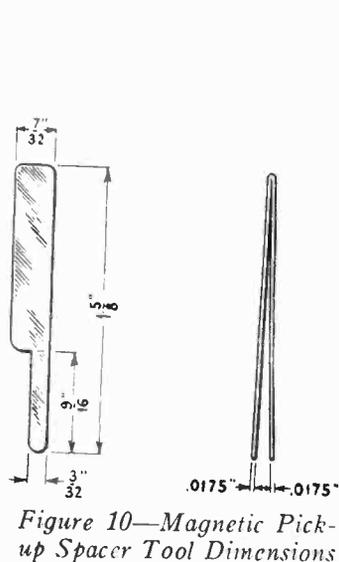

Figure 10—Magnetic Pick-up Spacer Tool Dimensions
To adjust the magnetic pick-up, but one special tool is necessary—a feeler gauge, shown in Figure 10. This gauge may be made from 20 mil phosphor bronze stock according to the dimensions given. This gauge is not used to center the armature, but to obtain the correct total air-gap between the pole pieces of the pick-up, in which space the armature vibrates. Therefore, each tip need not be exactly the same thickness if the combined thickness of the two tips is 35 mils, although in filing down the tips each tip should be filed approximately the same. This gauge—carried as RCA Replacement Part No. 2677—may be obtained from RCA Victor Co., Inc., Radiola Division, Technical Service Department.
- (e) Place the new coil in position, being sure that the cambric spacer is in place. See Figure 10. The spacer around the defective coil may be used. Clean the tips of the coil leads with fine sandpaper back to the outer ends of the protective sleeves and solder in place. It may be necessary when replacing a coil to replace the rubber pivot cushions also. See Part V, Section 4, paragraph (1), and Part V, Section 7.